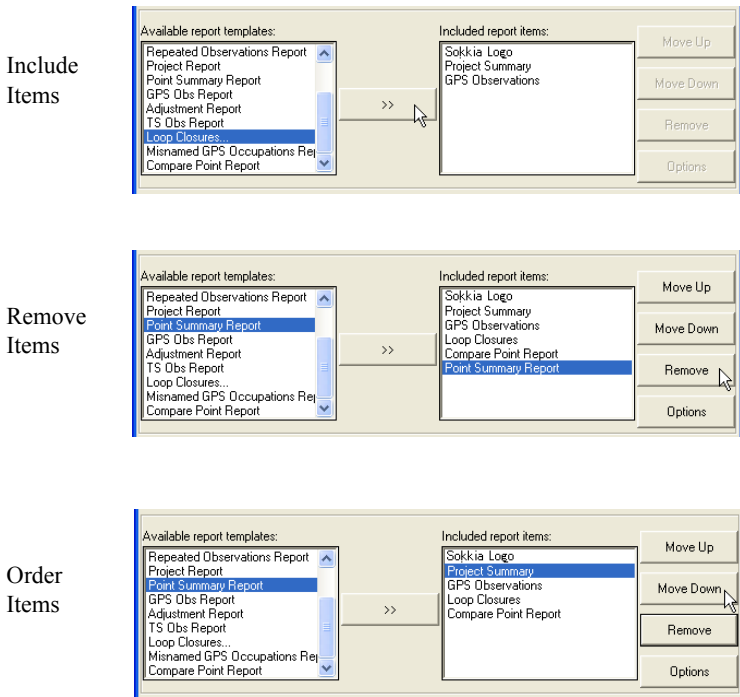

Figure 7-15. Edit Item Columns
3. If adding items, select the items to include in the left column and click the move right (>>) button (Figure 7-15 on page 7-12).
4. If removing items, select the items to remove and click **Remove** (Figure 7-15 on page 7-12).
5. Use the **Move Up** and **Move Down** buttons to order included items (Figure 7-15 on page 7-12).
2. If adding items, select the items to include in the left column and click the move right (>>) button (Figure 7-15).
3. If removing items, select the items to remove and click **Remove** (Figure 7-15).
4. Use the **Move Up** and **Move Down** buttons to order included items (Figure 7-15).